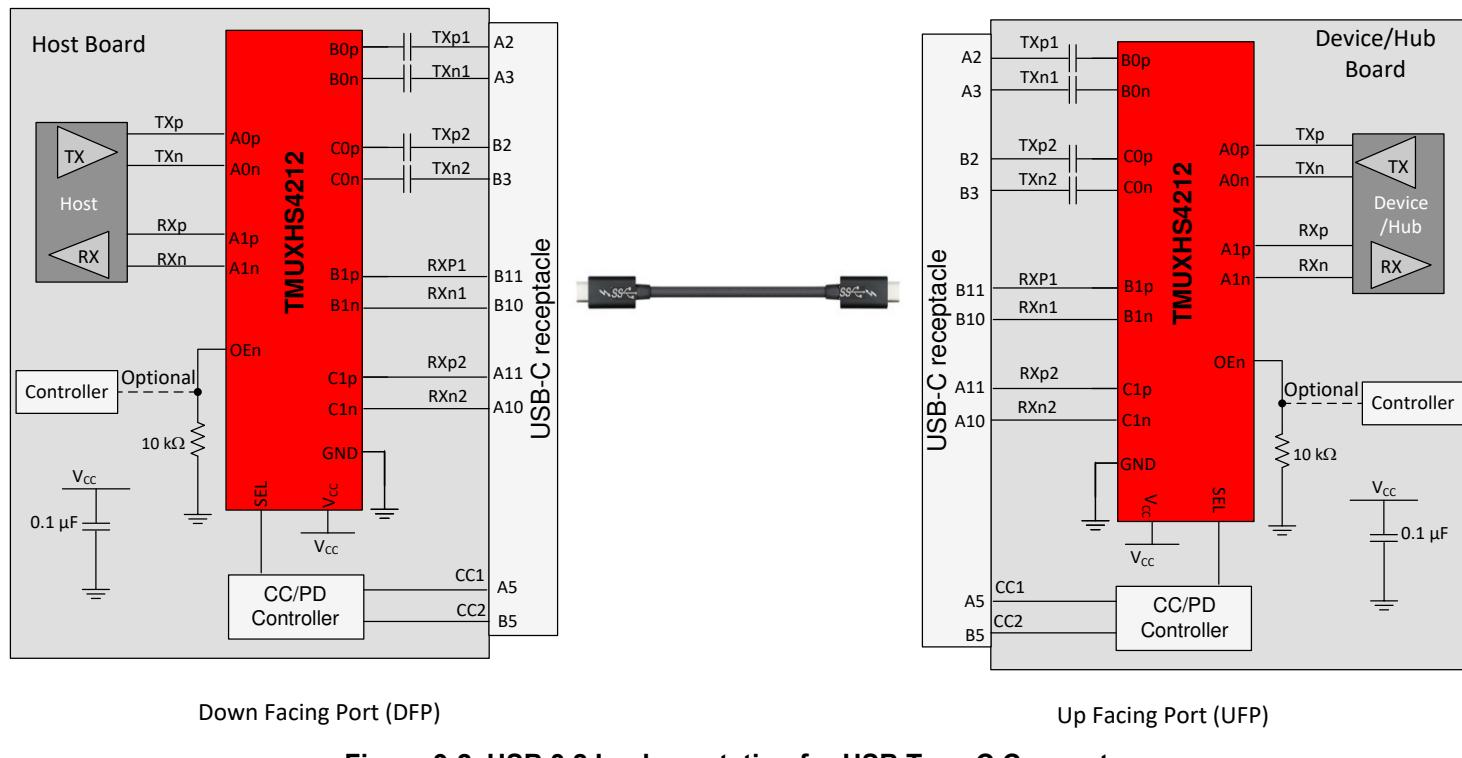

Figure 9-2. USB 3.2 Implementation for USB Type-C Connector
The TMUXHS4212 can be used in USB Type-C implementation to mux USB 3.2 superspeed signals (TX1 and RX1 pairs versus TX2 and RX2 pairs) to accommodate plug flips. In typical use cases, the mux selection is done by a USB Type-C Channel Configuration (CC) or Power Delivery (PD) controller. The device can be used on a USB Type-C DFP, UFP, or DRP port. Figure 9-2 shows two USB Type-C connector applications with both a host and device side. The cable between the two connectors swivels the pairs to properly route the signals to the correct pin. The other applications are more generic because different connectors can be used.
| R_{BIAS} (Figure 9-2) when needed | 1 k Ω to 100 k Ω |